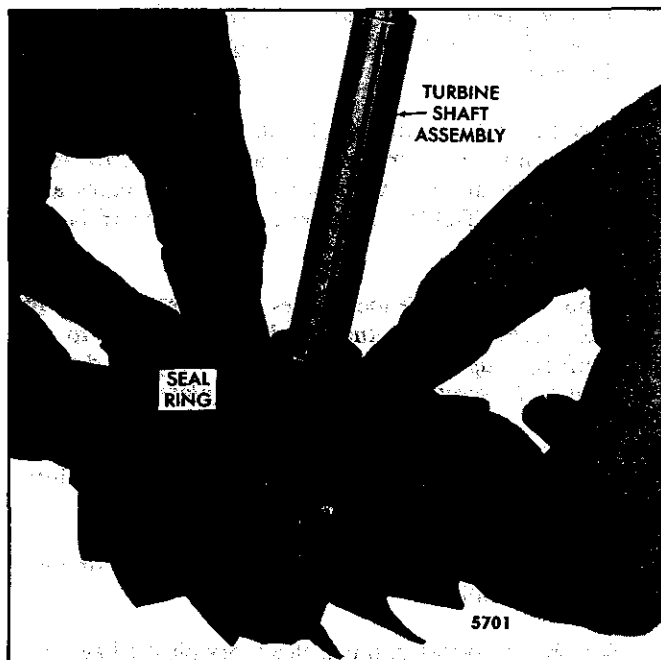

Fig. 13 – Installing Seal Ring on Turbine Shaft
2. Lubricate a new piston ring with clean engine oil and install it in the ring grooves of the wheel and shaft assembly (Fig. 13). *Do not over expand the ring.*